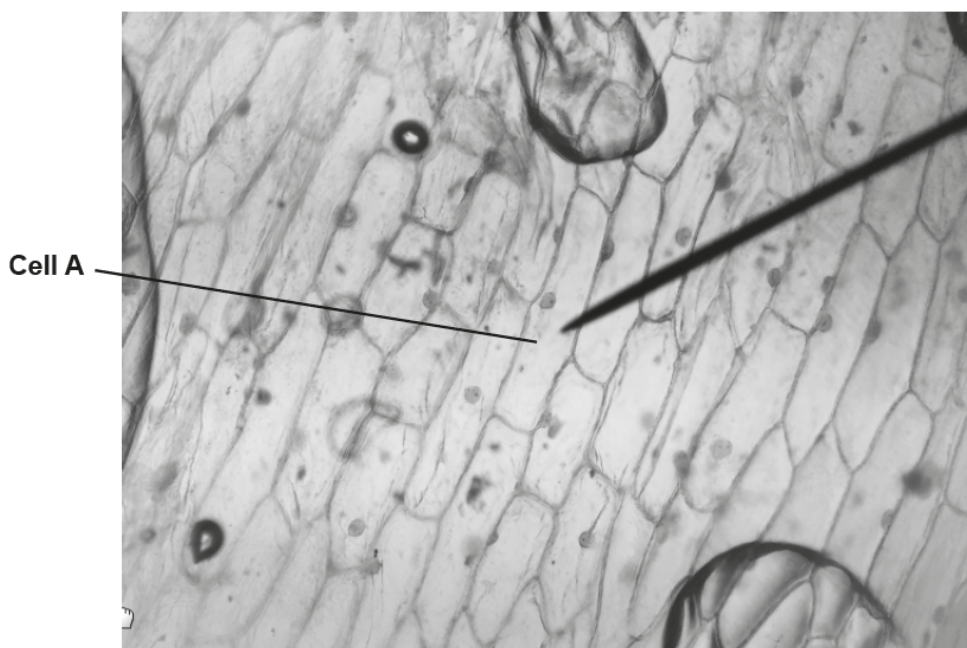

Fig. 5.1
Fig. 5.1 shows a photograph of the magnified onion epithelial cells.
- (b) The photograph shown in **Fig. 5.1** was obtained using a **x10** eyepiece lens and **x60** objective lens.
- (i) Calculate the magnification used in **Fig. 5.1**.
(iv) Which **three** key features of the onion epithelial cells can be clearly seen in Fig. 5.1?